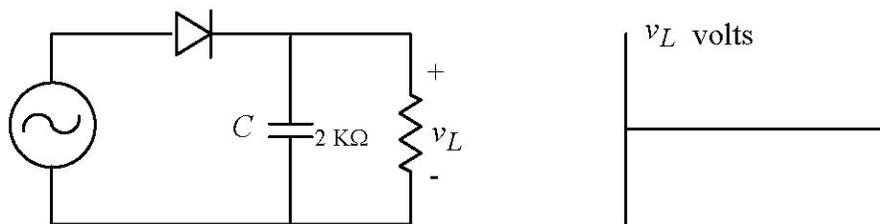

Figure 8 – Half-Wave Rectifier with Capacitor
- Now suppose a capacitor C is connected in parallel with the load as in Figure 8. Calculate a suitable value for C so that the RC time constant is about $\tau \sim 0.02$ seconds. Give an approximate sketch of the expected $v_L(t)$ waveform when C is added to the circuit. Qualitatively speaking, what is the role of a capacitor in this circuit?
5. Add a capacitor in parallel with the load as shown in Figure 8. Measure, save, and record the waveform for $v_L(t)$.